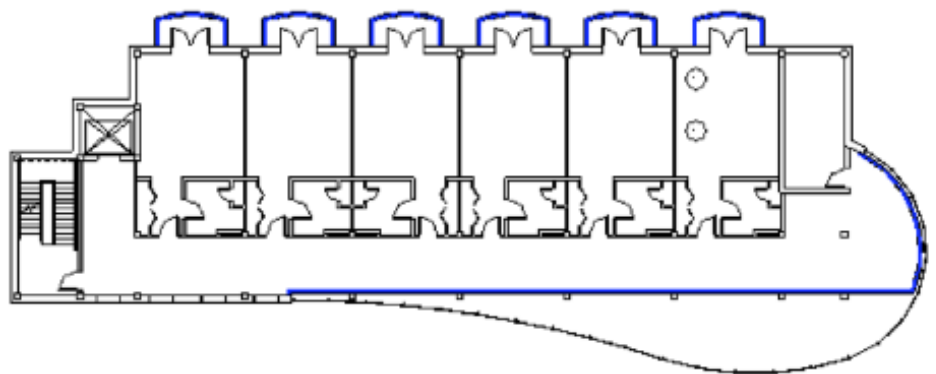

Figure 7–25
7. Select one of the railings along the balconies. Right-click and select **Select All Instances>Visible in View**. The railings are selected as shown in Figure 7–25.